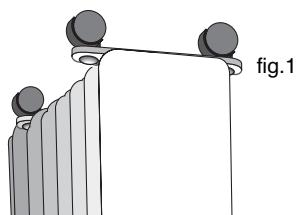

fig.1
- The feet with the casters must be fitted with two arc-shaped brackets and fix them using the threaded bar and wing nut provided, only between the 1st and 2nd element and the penultimate (see fig. 1 to 3 inclusive)
Introducir las ruedas en el perno del pie y empujar a fondo hasta que disparen.(Ver fig. 1,2,3).